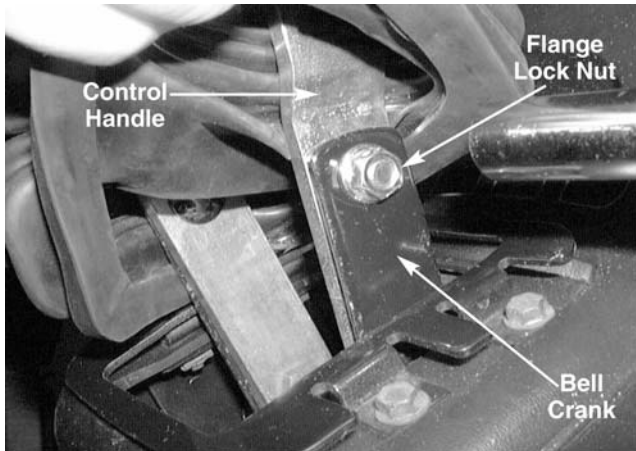

Figure 10-2.
5. Remove the carriage bolt and flange lock nut securing each drive control handle to the upper left and right bellcrank assemblies using a 1/2" socket. See Figure 10-2.